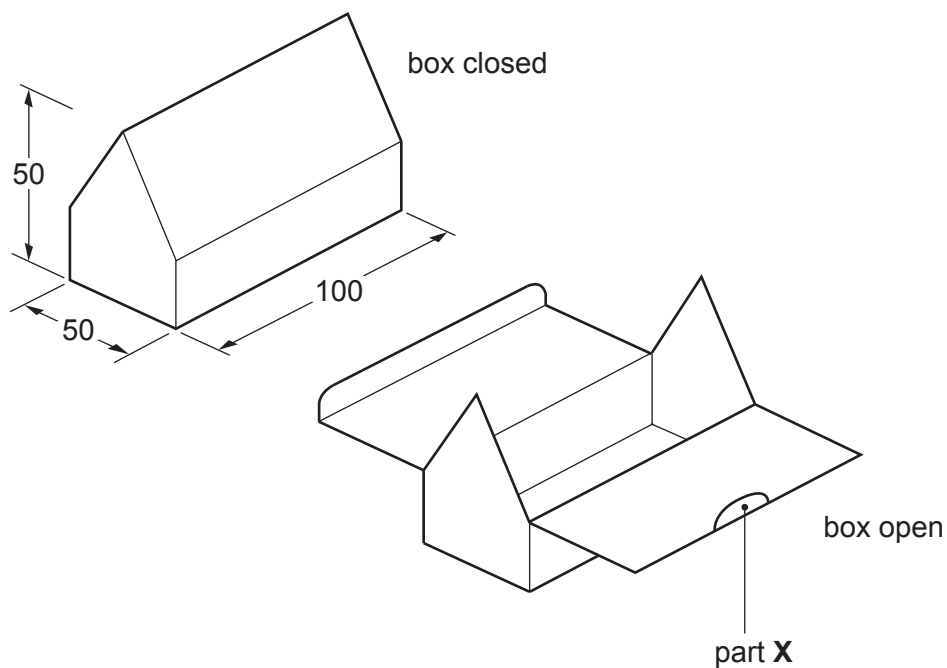

Fig. 5.1
- 5 Fig. 5.1 gives details of a self-assembly cardboard box that is given to children for colouring and assembling, whilst their parents are looking at new houses.